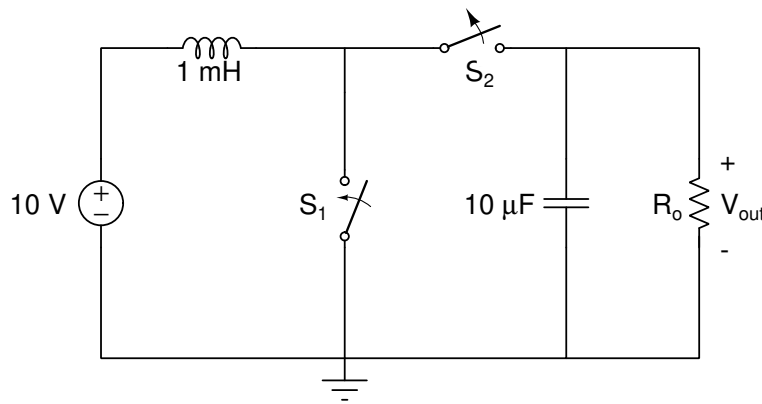

Figure 1: A boost converter circuit containing two synchronized switches.
Introduction: In this lab, you will design, simulate, build, and test a boost converter based on the switched capacitor circuit shown in Figure 1.
Figure 2: Boost converter circuit implemented with an NMOS transistor driven with a function generator (FG) to represent the switch S_1 and a diode to represent the switch S_2 in Figure 1.